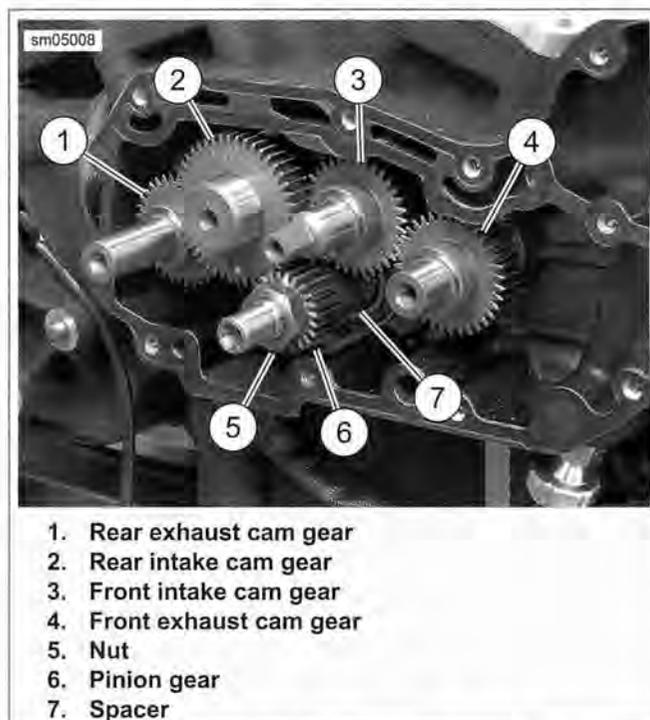

Figure 3-106. Cam Gears: XR 1200X
11. See Figure 3-106. Remove cam gears (1, 2, 3, and 4). Carefully mark each component to verify correct installation.